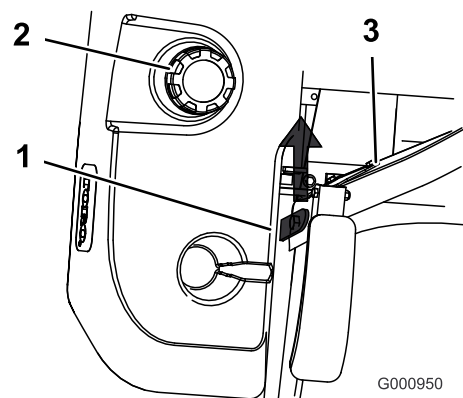

Figure 15
3. Raise the seat up (Figure 15).